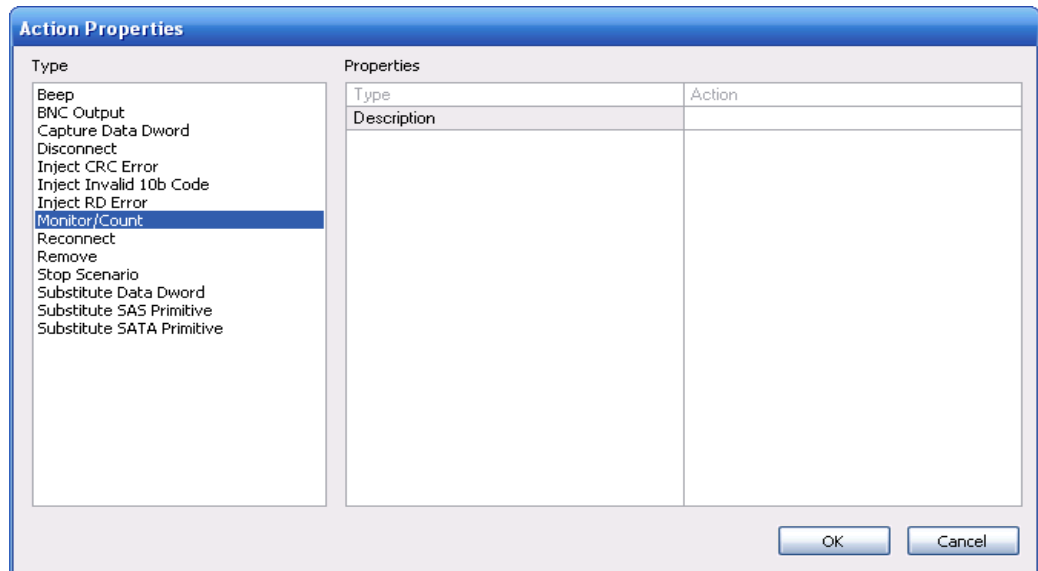

Figure 67 Example 5: Action Drop-Down List (For Third Action)
Step 6 The Action Properties dialog box appears. Choose **Monitor/Count** as the third action (Figure 67).